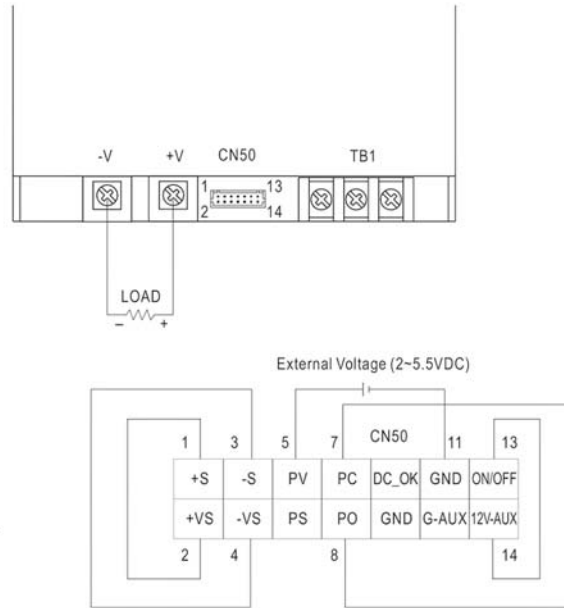

Fig 5.1
(1) Using an external DC source (2~5.5VDC) between "PV"(pin5) and "GND"(pin10,11) that is shown in Fig5.1